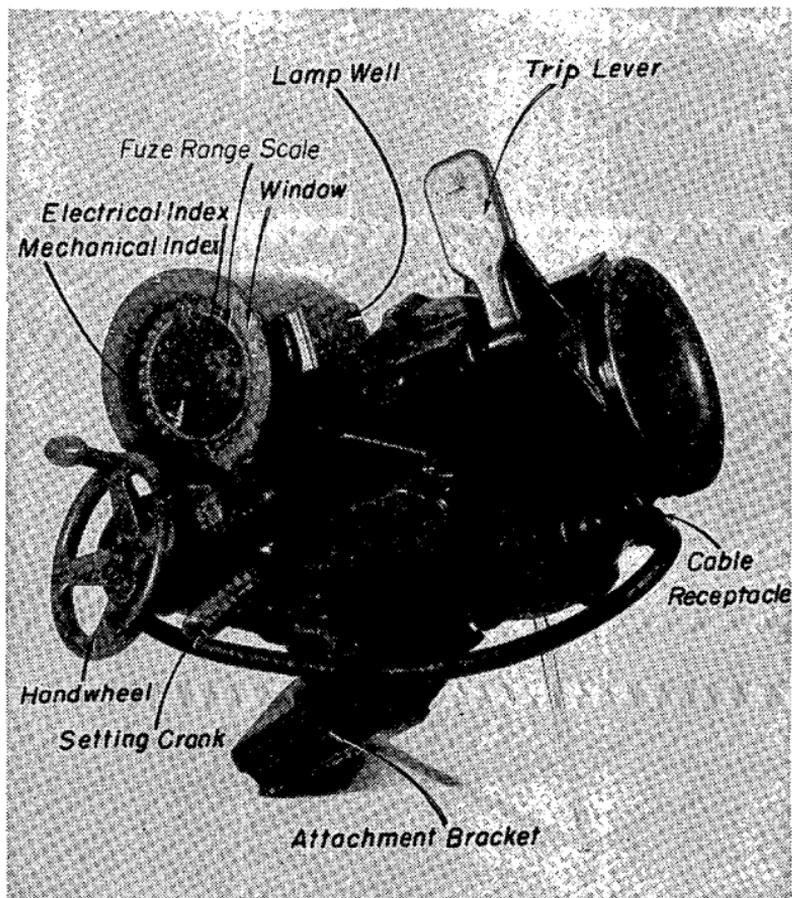
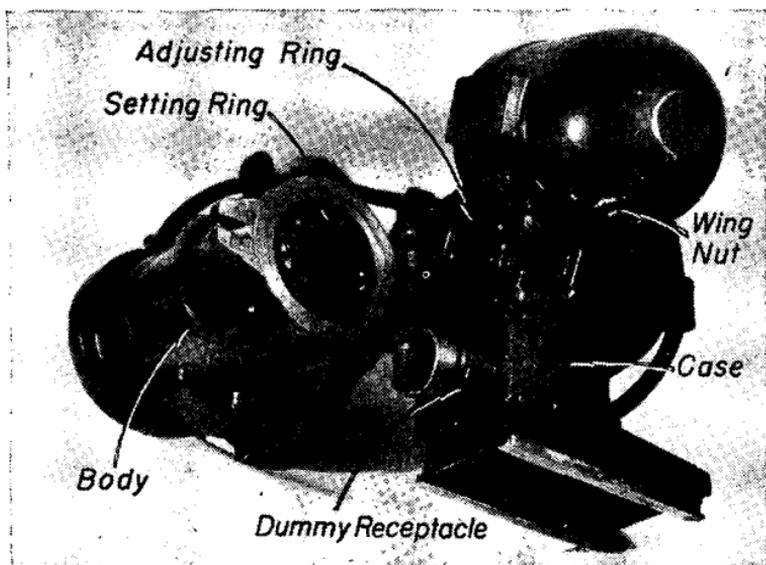

FIGURE 14.—M8 fuze setter.
FIGURE 15.—M8 fuze setter open for inspection.
■ 76. DESCRIPTION.—*a.* The fuze setter consists principally of the fuze indicator, the adjusting mechanism, and the setting mechanism. The indicator and adjusting mechanism are inclosed within the case (fig. 15) while the setting mechanism is housed within the body.
b. (1) The fuze indicator includes a fuze range scale, a mechanical (outer) index, an electrical (inner) index, and a standard a-c synchronous electrical unit.
(2) The electrical unit positions the electrical index at the position on the fuze range scale corresponding to the fuze setting transmitted from the director.
c. The adjusting mechanism is that mechanism which causes the fuze to be set at the particular fuze setting desired. A handwheel (fig. 14) is geared both to the mechanical index and to an adjusting ring (fig. 15) whose function is to engage and hold fast the lug or slot on the setting element of the fuze on the projectile. By turning the handwheel the mechanical index is made to indicate a particular fuze setting, and the adjusting ring is revolved to such a position that its pawls will stop the setting element on the fuze at the same fuze setting that is indicated by the mechanical index.
d. The setting mechanism, driven by the setting crank (fig. 14), contains a setting ring (fig. 15) which engages the lug or slot on the body of the fuze and turns the projectile until the fuze body is properly positioned with respect to the setting element of the fuze.
■ 79. TO CHANGE RINGS IN FUZE SETTER.—*a.* Open the fuze setter as shown in figure 15, remove the screws and the lock washers in each ring already assembled in the fuze setter, and remove this set of rings. If the rings stick in place in the fuze setter after the fastening screws have been removed, insert the screws into the tapped holes in the rings and pull the rings loose. Select from the accessory chest the proper set of rings to be used; then assemble the adjusting rings to the adapter in the case or lower portion of the fuze setter, and the setting ring to the socket in the body or upper portion.
h. Whenever the cable receptacle (fig. 14) is not connected to the gun junction box, it should be stowed on the dummy receptacle with the cable wrapped around in front of the fuze indicator.